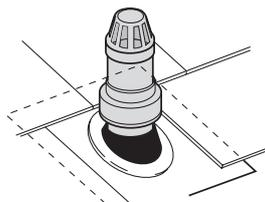

Fig. 19d Steps 6/7
Step 6 – Slide **131 Weathering Apron** over stack and solvent-weld in position (Fig. 19d)